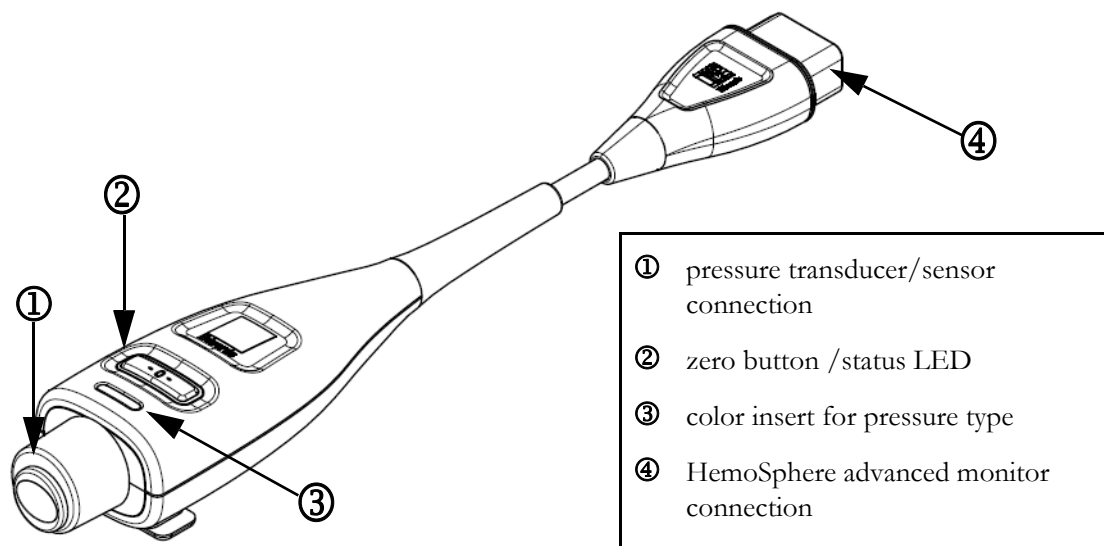

Figure 10-1 HemoSphere pressure cable
The HemoSphere pressure cable acquires and processes a single pressure signal from a compatible Edwards disposable pressure transducers (DPT), such as the TruWave DPT, or a FloTrac sensor. A FloTrac or FloTrac IQ sensor connects to an existing arterial catheter to provide minimally invasive hemodynamic parameters. A TruWave transducer can connect to any compatible pressure monitoring catheter to provide location based intravascular pressure. Refer to the directions for use provided with each catheter for specific instructions on catheter placement and use, and for relevant warnings, cautions and notes. The HemoSphere pressure cable can be monitored through two technology monitoring modes based on the paired sensor/transducer: **FloTrac** sensor monitoring mode or **Swan-Ganz** catheter monitoring mode. The monitoring mode appears on the information bar (see figure 5-19 on page 84). The appearance and connection points for the HemoSphere pressure cable are shown in figure 10-1.
Pressure Type Color Insert. If desired, the appropriate color insert can be used on the pressure cable to indicate the monitored pressure type. See ③ in figure 10-1 below. The colors are as follows:
- Red for arterial pressure (AP)
Press the physical zero button  directly on the pressure cable (see figure 10-1).